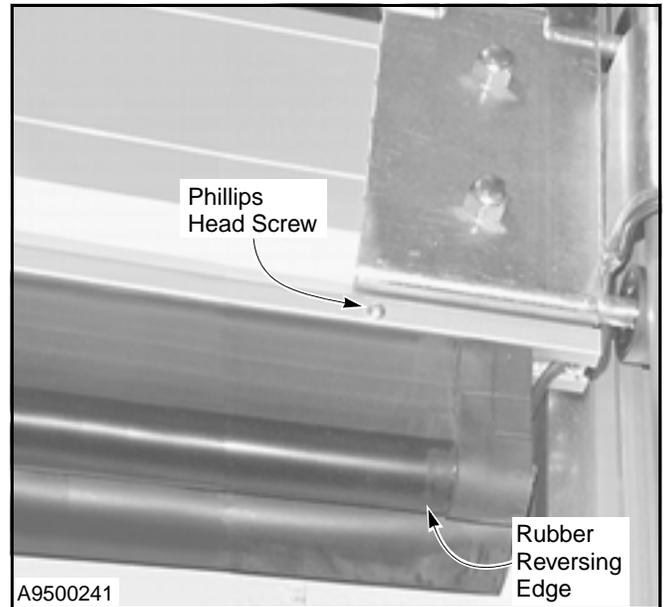

Figure 78
7. Remove and save the two small Phillips head screws used to secure the rubber reversing edge to the bottom door panel. Each screw is located about 4 in. from the ends of the panel, just above the rubber reversing edge. (See Figure 78.)